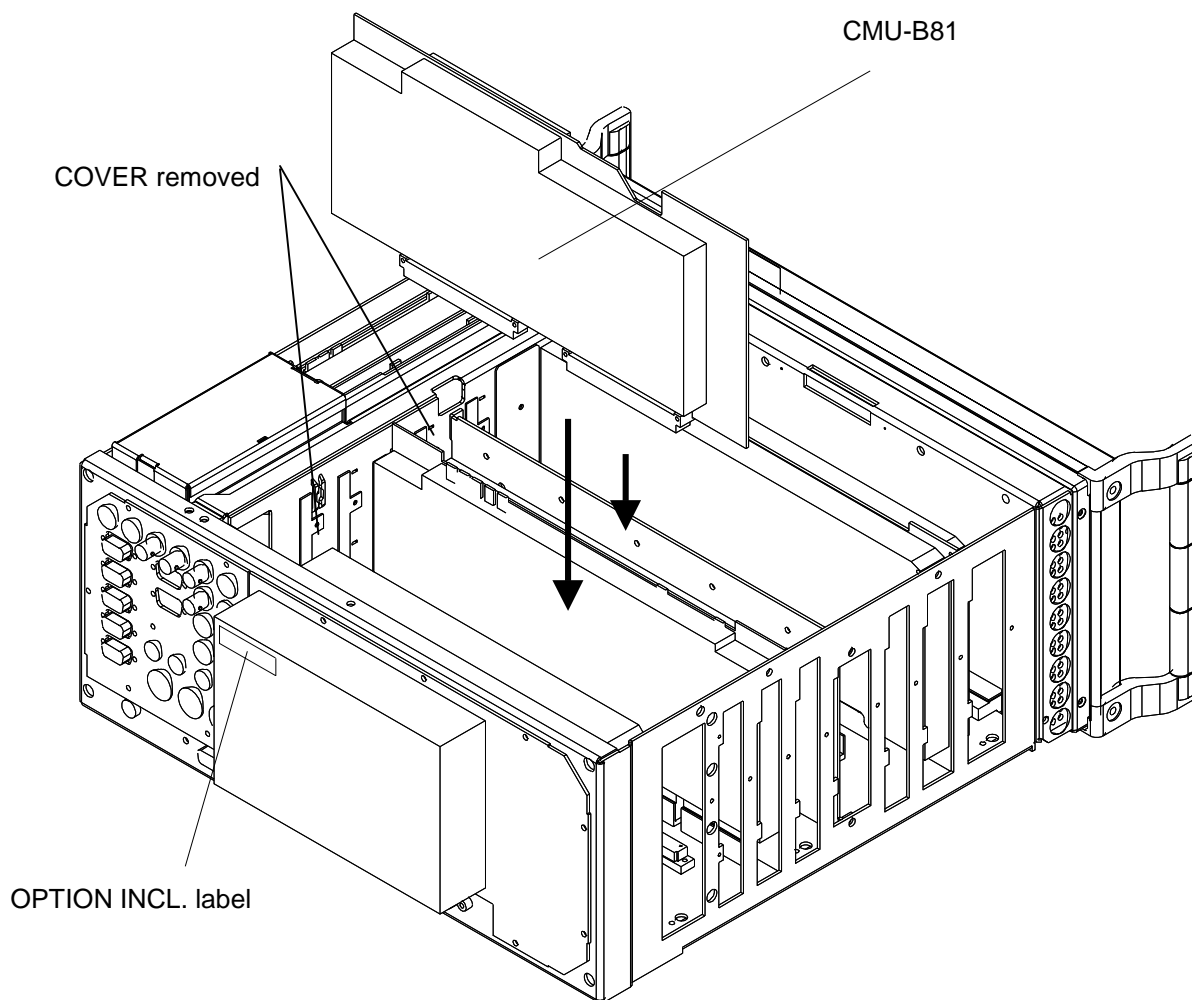

Fig. 3
- 2.1 Remove the cover of the ventilation opening in the partition of either the 5th or 8th slot as seen from the front panel (Fig. 3).
- 2.2 Insert CMU-B81 either into the 5th or 8th slot as seen from the front panel (Fig. 3).